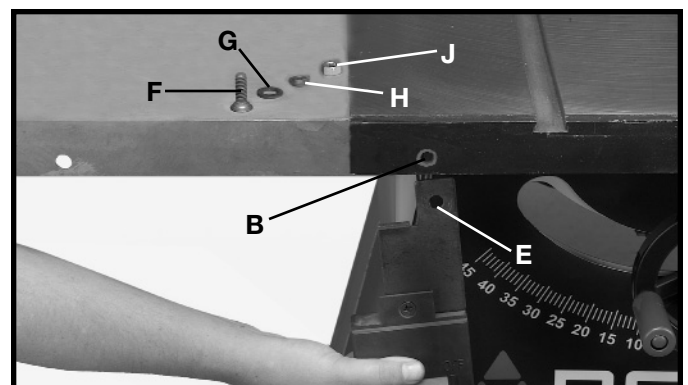

Fig. 40
Insert a 3/8-16x1-1/2" flat head screw (F) Fig. 40, through hole (B) in the front the saw table. Place hole in switch bracket (E) Fig. 40, on screw (B) located behind the inner lip of the saw table. Place a 3/8" flat washer (G), then a 3/8 lockwasher (H), onto the flat head screw (F), and fasten with a 3/8-16 hex nut (J), and tighten securely.